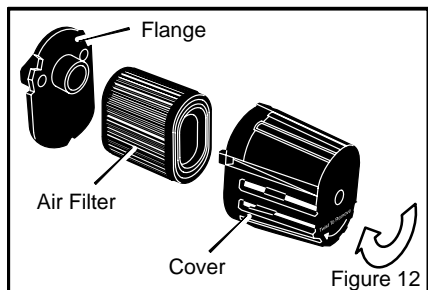

Figure 12
2. Turn the **cover** clockwise as shown in Figure 12. Remove the **cover** and the **air filter**.